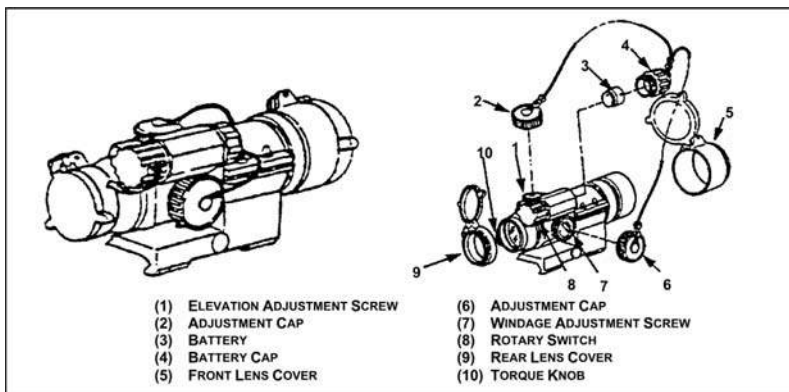

Figure 071-705-0003-1. M68, close combat optic
- a. Open the front and rear lens covers (figure 071-705-0003-1).
- d. If adjustment is required, remove adjustment screw caps from adjustment screws by turning them counterclockwise (Figure 071-705-0003-1).